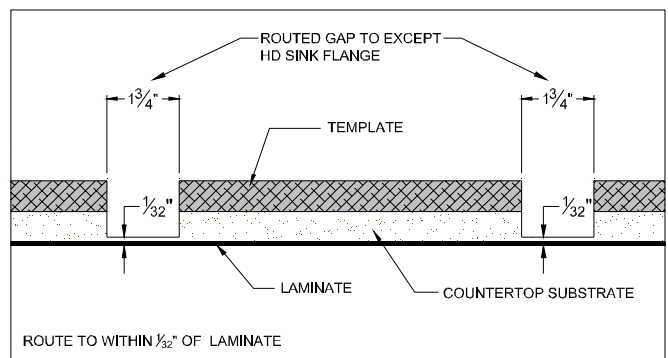

Figure 5C
- Index a 3 $\frac{1}{4}$  HP or 2 $\frac{1}{2}$  HP plunge router with a 1 $\frac{1}{8}$ " x 1" top bearing flush trim router bit to remove the substrate. (FIG. 5C)
- Once this step is completed, there should be  $\frac{1}{32}$ " of substrate remaining. (FIG. 5C)